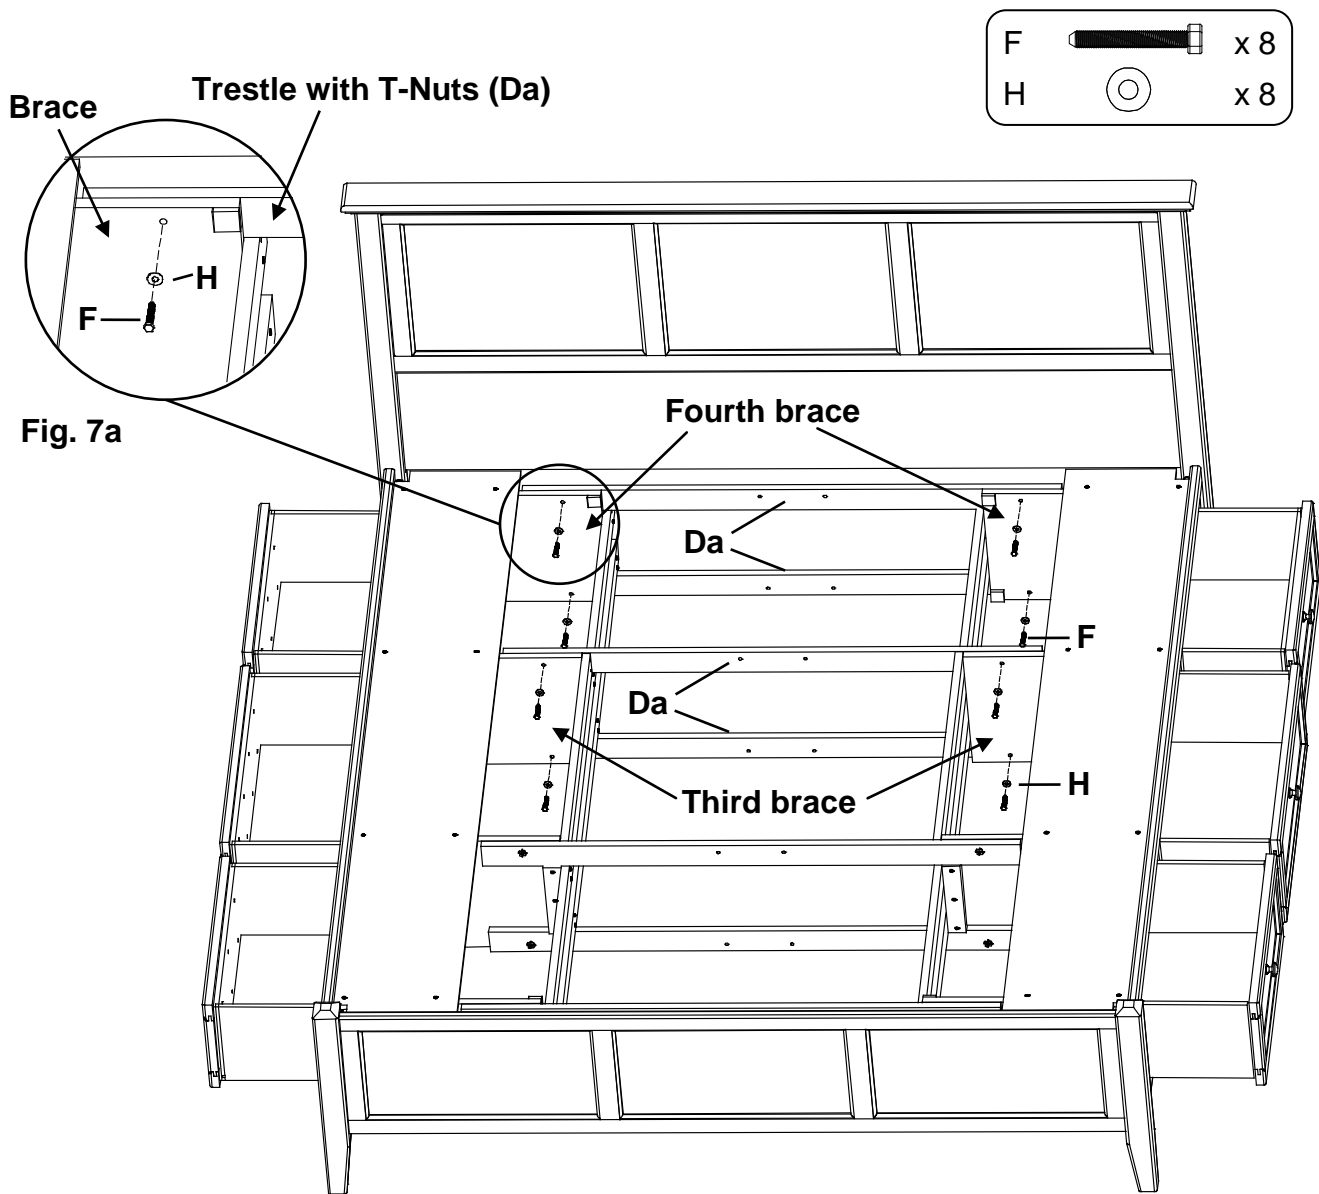

Fig. 7
7. Face the Headboard and stand in between the third and fourth braces. Place a Trestle with T-Nuts (Da) on the outside surfaces of the third **upper** left and right braces so the T-nuts sit near the top. See Figures 7 and 7a. Line up the upper edges of the trestle and braces so they are nearly flush. Insert two 1/4" x 1-3/4" Hex Bolts (F) and Washers (H) and tighten.
Place a Trestle with T-Nuts on the outside surface of the third left and right **lower** braces so that the T-nuts sit near the bottom. Line up the bottom edges of the trestle and braces so they are nearly flush. Insert two 1/4" x 1-3/4" Hex Bolts (F) and Washers (H) and tighten. See Figures 7 and 7a.